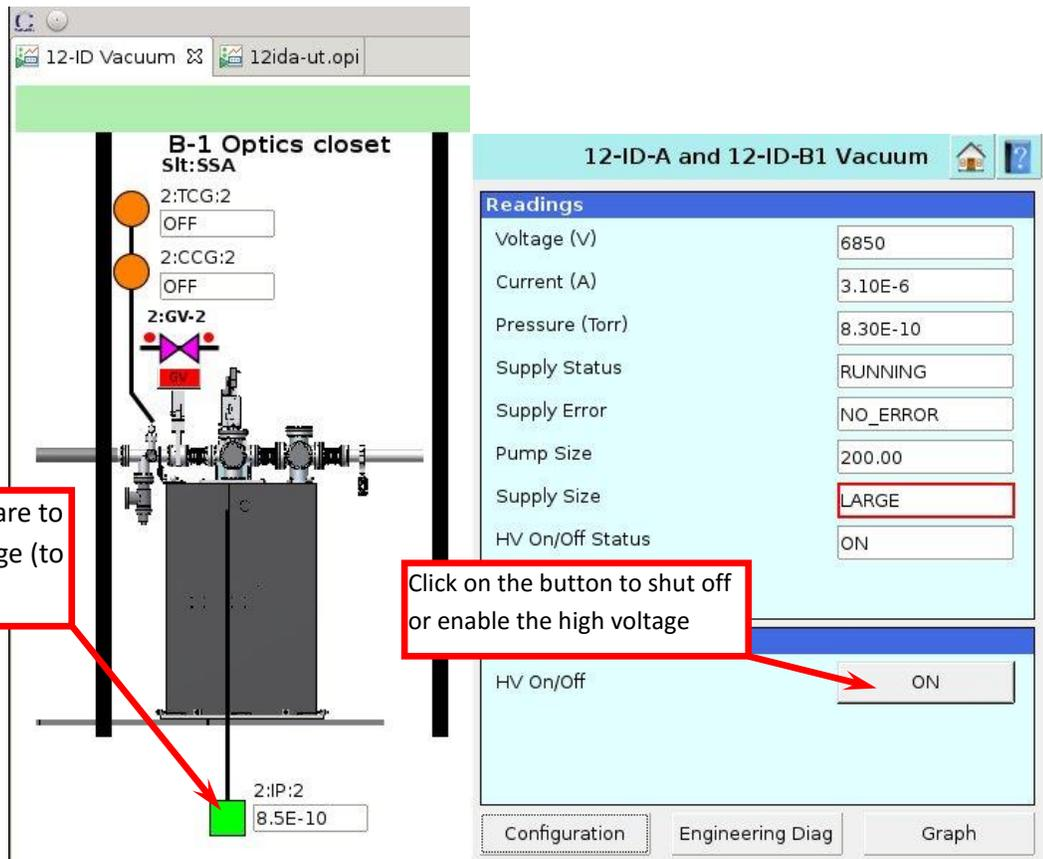

Figure 5-1: Typical EPS Vacuum Screen Detail
- 5.1.3 Shut off high voltage to the 2:IP-5 ion pump using EPS Vacuum Screen (Figure 5.1)
- 5.2.11 Enable the high voltage to the 2:IP-5 ion pump using EPS Vacuum Screen (Figure 5.1, right panel). Ensure that "HV ON/OFF status" turned to "ON".